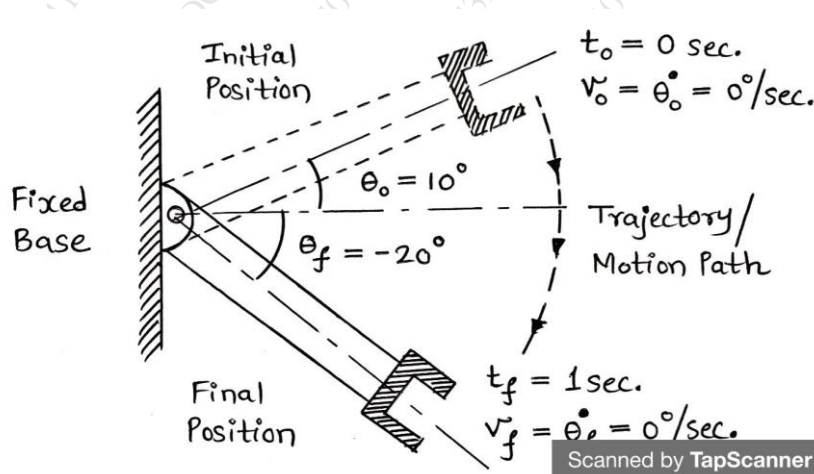

Fig. 6.1 – 1 DOF Planar Robotic Manipulator for Q.3
- (b) Evaluate the trajectory profile of position, velocity & acceleration for a 1 DOF planar robotic manipulator as shown in Fig. 6.1 below such that the initial angular position  $\theta_o = 10^\circ$  & final angular position  $\theta_f = -20^\circ$  with a 1 second movement from point A to point B ( $t_o = 0$  &  $t_f = 1$  sec.). Assume velocities at each points are zero ( $v_o = v_f = 0$  °/sec.) (10 Marks)